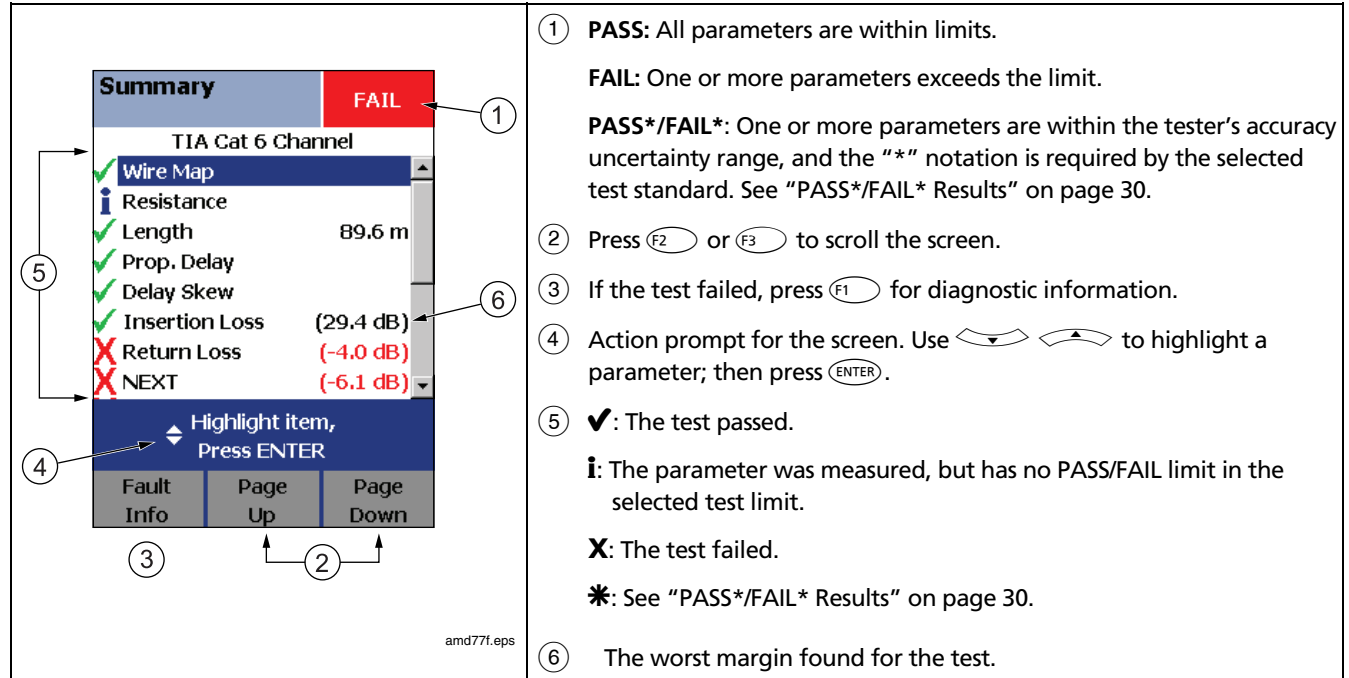

Figure 13. Autotest Summary for Twisted Pair Cabling
- 6** The tester shows the Autotest **Summary** screen when the test is complete (see Figure 13 on page 29). To view results for a specific parameter, use   to highlight the parameter; then press .
Figure 13 describes the Autotest **Summary** screen.